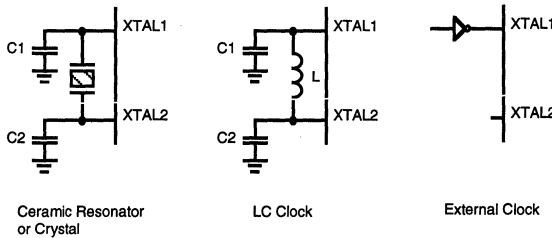

Figure 21. Oscillator Configuration
Clock. The Z86C63/64 on-chip oscillator has a high-gain, parallel-resonant amplifier for connection to a crystal, LC, ceramic resonator, or any suitable external clock source (XTAL1 = Input, XTAL2 = Output). The crystal should be AT cut, 1 MHz to 20 MHz max, and series resistance (RS) is less than or equal to 100 Ohms. The crystal should be reconnected across XTAL1 and XTAL2 using the recommended capacitors (10 pF < CL < 100 pF) from each pin to device ground (Figure 21).